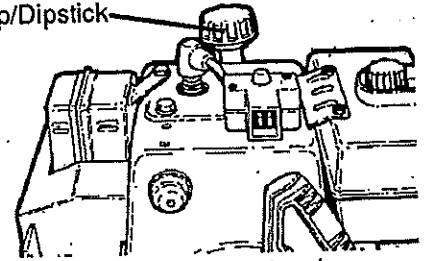

FIG. 5-MAINT
Change the oil after first two hours of operation and every twenty-five (25) hours thereafter or at least once a year if the snow thrower is not used for twenty-five (25) hours (See FIG. 5-